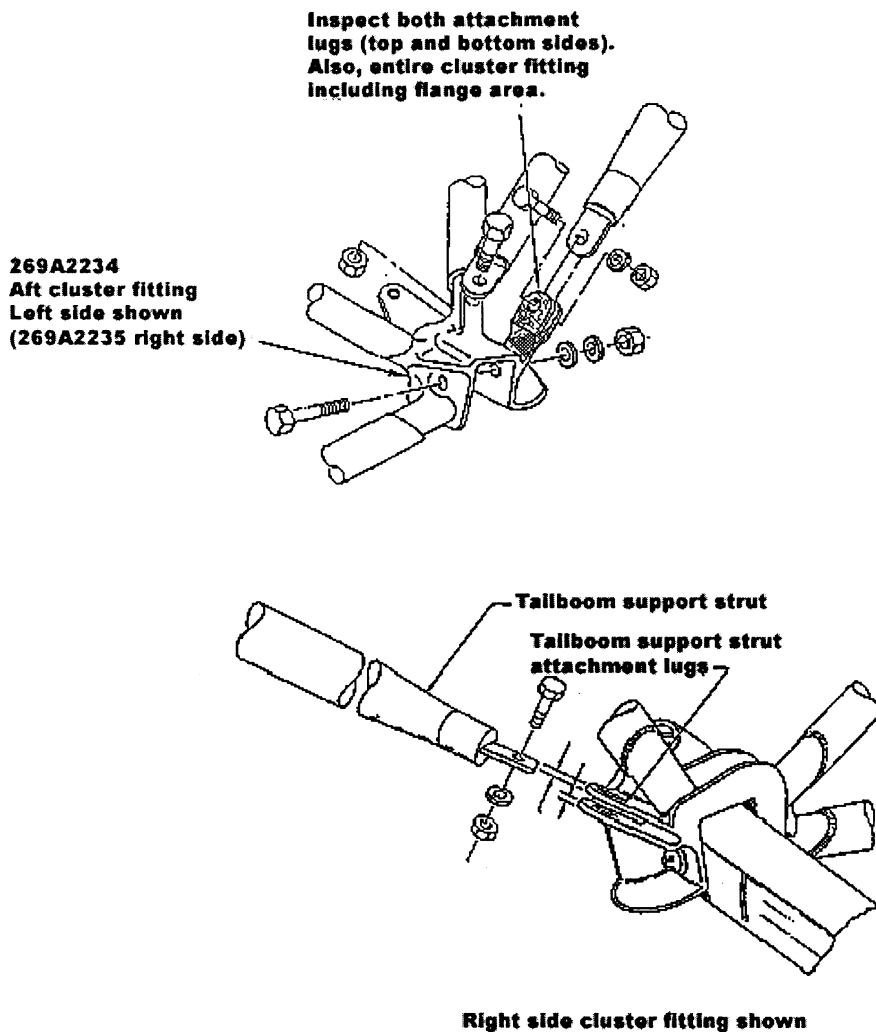

Figure 1
(1) Using paint remover, remove paint from the lugs on each cluster fitting. Wash with water and dry. The tailboom support strut must be removed prior to the paint stripping.
(2) Dye-penetrant inspect the lugs on each cluster fitting. See the following Figure 1: